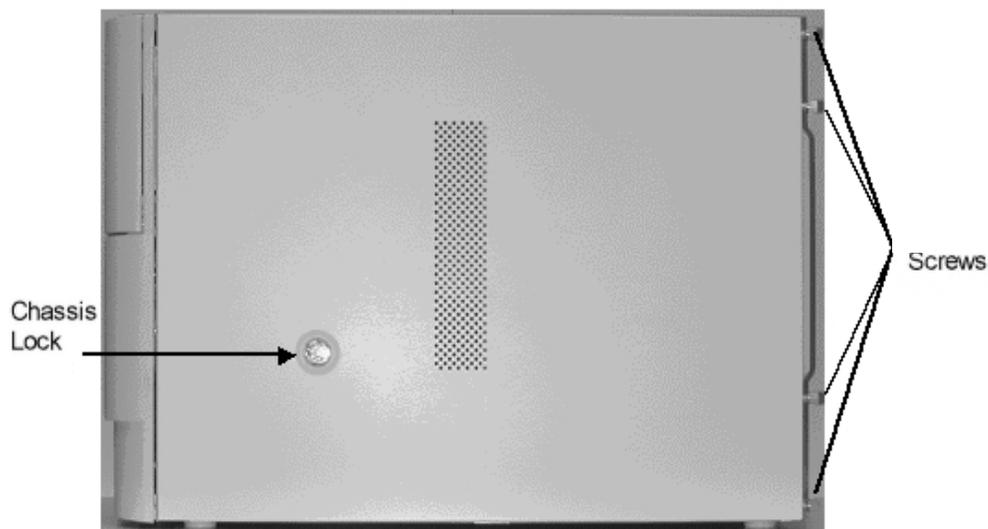

Figure 1. Removing the Four- (4) Chassis Screws
1. Starting with the system in an upright (normal) position, and resting on an anti-static surface, loosen the four- (4) Phillips-head screws from the rear (as shown in Figure 1).